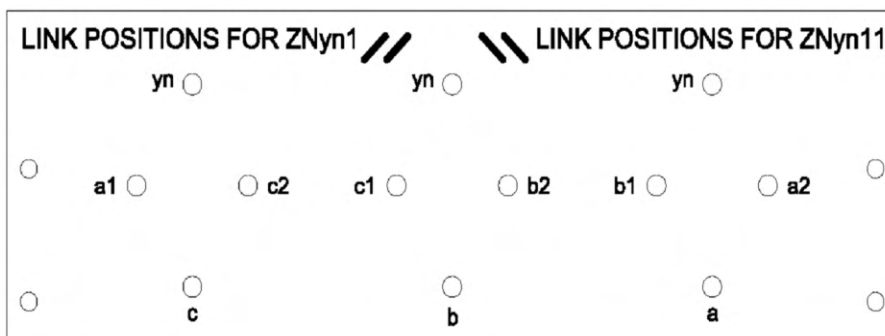

Fig.2 – Vector Link Board arrangement
- 4.2.2.7 Carefully loosen/slacken the required nuts and change the links to the required vector group (refer to Fig.2 for illustration).